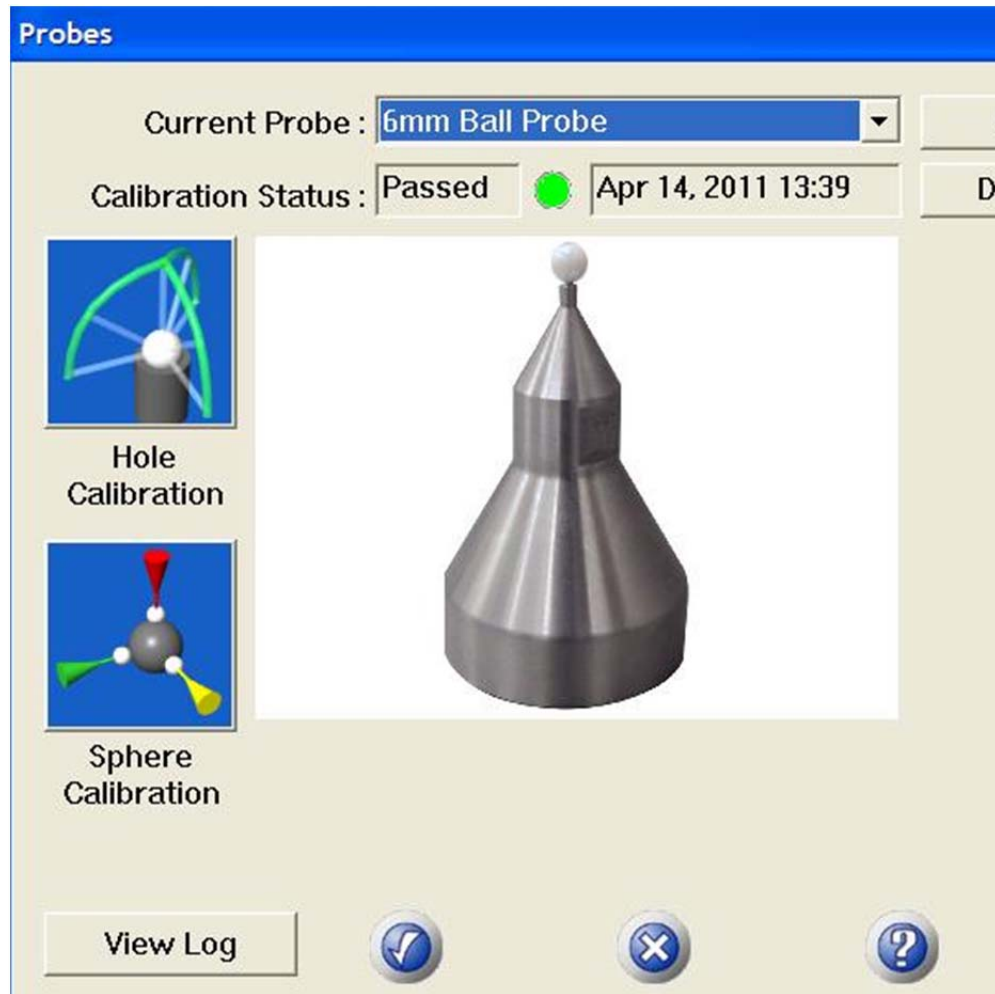

Figure B-6. Calibration Window for Hard Probe and Laser Probe
6. In the calibration window, select the hard probe hole calibration and calibrate the hard probe followed by a calibration of the laser probe (Figure B-6).